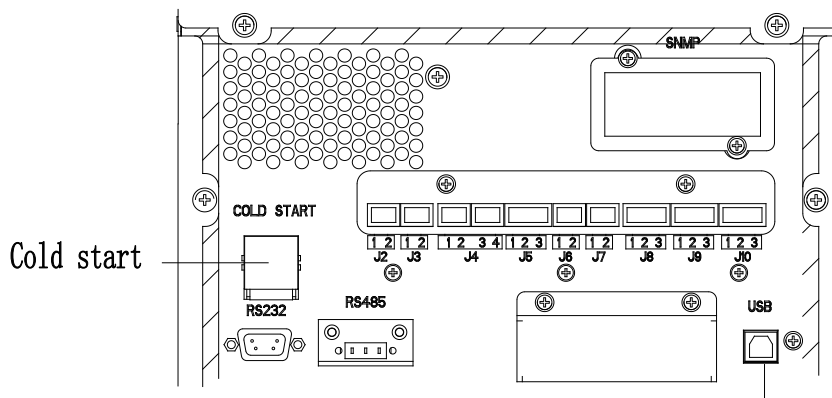

Fig.4-1 The position of the battery cold start button
2. Press the red button for the battery cold start (See Fig.4-1).The system is than powered by the battery.